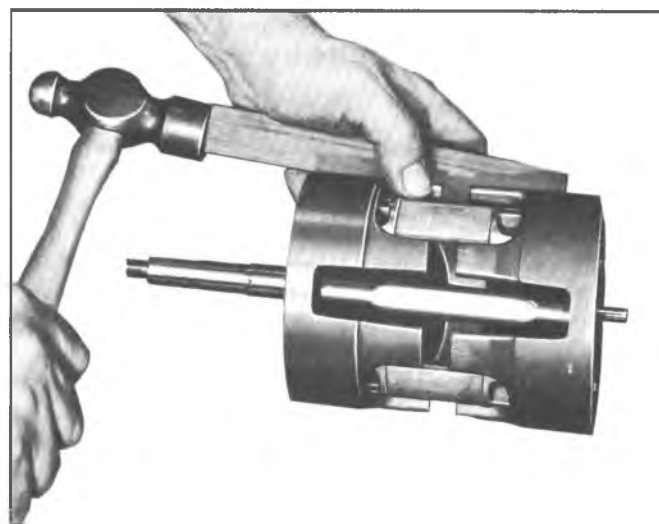

Fig. 19--Separating Cylinder Halves
3. Drive the cylinder halves apart and free from the dowel pins and discharge crossover tube using a fiber block and mallet (fig. 19). Discard the discharge crossover tube.